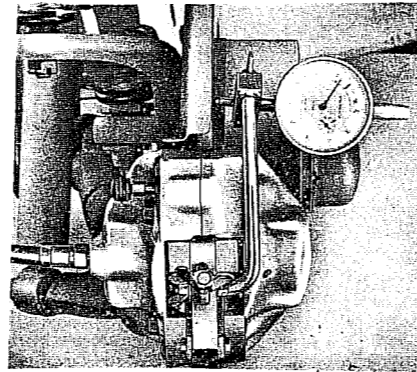

Fig. K.41. Checking the brake disc run-out with a dial gauge.
2. Check the run-out of the disc with a dial gauge (Fig. K 41). The play should be checked at several points around the circumference and should not exceed 0.2 mm (0.008"). If the run-out exceeds this figure, the disc must be replaced.